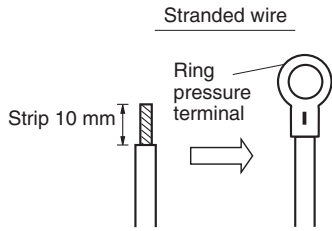

Fig. 4-5
- (1) Cut the wire end with cutting pliers, then strip the insulation to expose the stranded wire about 10 mm and tightly twist the wire ends. (Fig. 4-5)